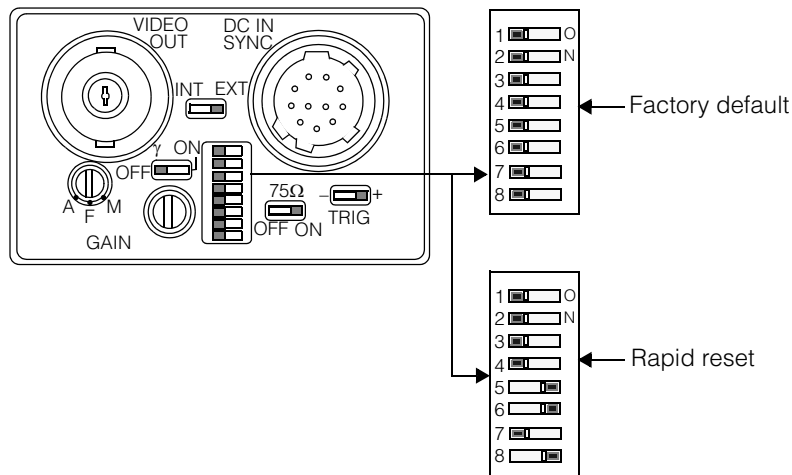

Figure 62. Sony XC-ST50 camera back panel
Figure 62 shows the back panel of the Sony XC-ST50 camera with the switches in their factory default and rapid reset modes.
- Configure the 8-position DIP switch as shown in Figure 62.